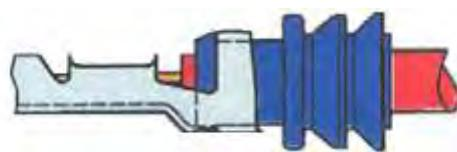

Figure 83
(2) Place the stripped wire in correct position in crimping area with a fitted single-wire-seal as shown in Figure 83.